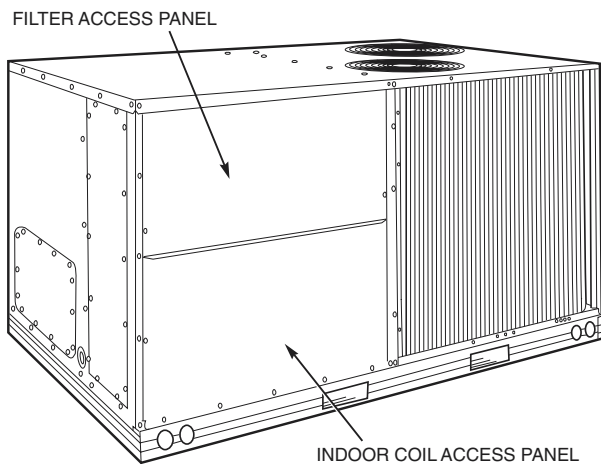

Fig. 20 — Typical Access Panel Locations
1. To remove the existing unit filter access panel, raise the panel and swing the bottom outward. The panel is now disengaged from the track and can be removed. See Fig. 20.